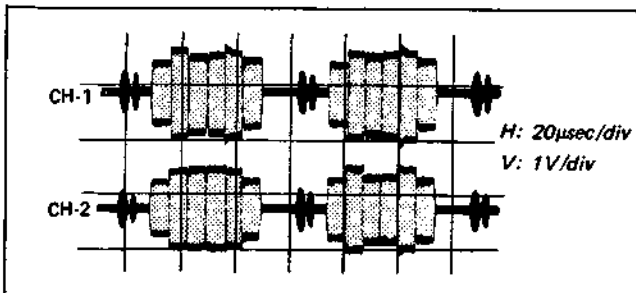

Fig. 4-4-3. Balance adjustment of chroma signal
- (7) Adjust RV2 so that the signal level of the CH-1 is equal to the one of the CH-2. (See Fig. 4-4-3.)